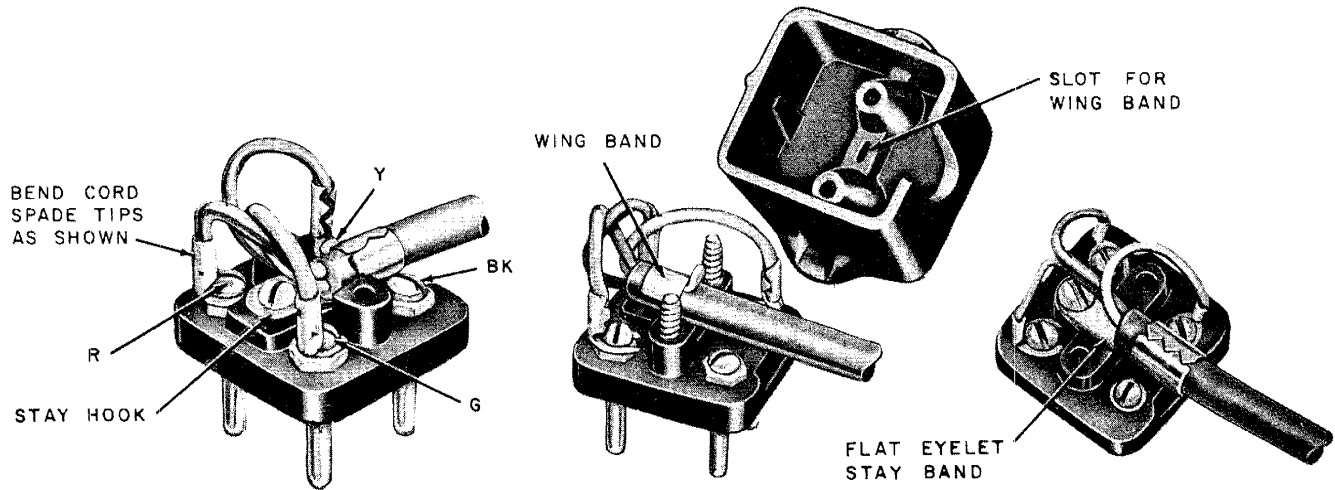

Fig. 12—Terminating Cords Equipped With a Stay Hook, Wing Band or Flat Eyelet Stay Band on a 283B(MD) Plug
- (1) Make a slight bend in the flat eyelet stay band in the direction away from the cord conductors.
- (2) With cord conductors up, insert RM-658901 self-tapping screw with P-284139 flat washer (shipped with 283B(MD) plug) through hole in stay band. Using farthest hole opposite cord entrance, anchor cord securely (Fig. 12).
- (3) Make connections as indicated by color designations stamped adjacent to terminals.
- (4) Seat base of plug in its cover; check that no cord leads are pinched. Tighten cover screws.
- (1) Make connections as indicated by color designations stamped adjacent to terminals (Fig. 12).
- (2) Bend cord spade tips up as shown in Fig. 12.
- (3) Place one edge of wing band in the larger (shallow drilled) of the two holes in the base.
- (4) Place cover so cord and wing band will seat properly in their slots.
- (5) Seat base of plug in its cover before tightening screws to prevent pinching of cord conductors.
- (1) Insert RM-658901 self-tapping screw through P-284139 flat washer. Using farthest hole opposite cord entrance, start screw into hole.
- (2) With cord conductors up, slide cutout in stay hook under flat washer and tighten screw.
- (3) Make connections as indicated by color designations stamped adjacent to terminals (Fig. 12).
- (4) Bend cord spade tips up as shown in Fig. 12.
- (5) Seat base of plug in its cover; check that no leads are pinched. Tighten cover screws.